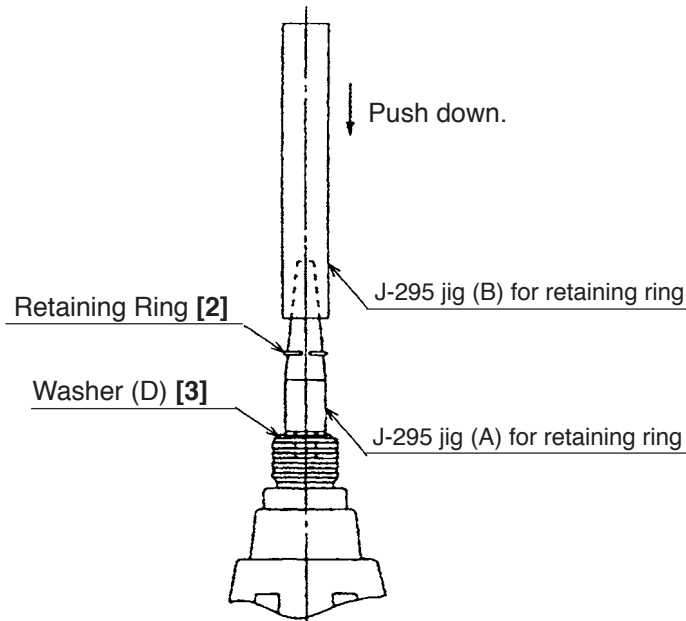

Fig. 12
(5) Reassembly of the Guide Sleeve [5]
Insert the Steel Ball D3.5 [8] into the hole of Anvil (B) [9]. Mount the Guide Sleeve [5], the Guide Spring [4] and Washer (D) [3] in sequence. Mount the Retaining Ring [2] into the groove of the anvil using J-295 jigs (A) and (B) for retaining ring as illustrated in Fig. 12.